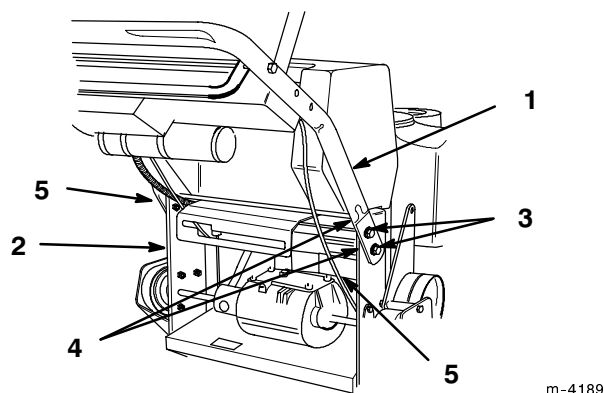

Figure 5
- Secure each side with (2) 3/8 x 1 in. (26mm) flange bolts and flange nuts (Fig. 5). Torque bolts to 25 ft. lbs. (34 N.m).
- Route cables and wire harness inside of frame (Fig. 5)